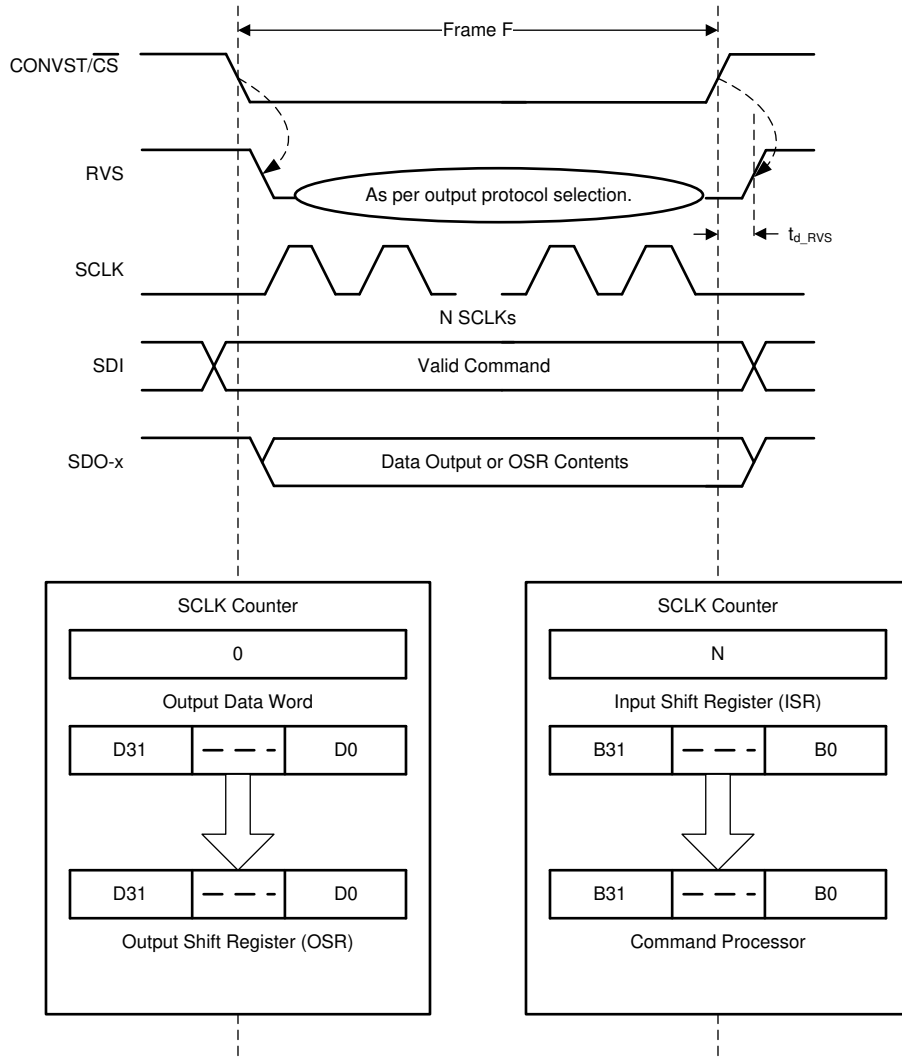

图 7-25. Data Transfer Frame
A data transfer frame between the device and the host controller begins at the falling edge of the CONVST/ $\overline{\text{CS}}$ pin and ends when the device starts conversion at the subsequent rising edge. The host controller can initiate a data transfer frame by bringing the CONVST/ $\overline{\text{CS}}$ signal low (as shown in 图 7-25) after the end of the CONV phase, as described in the CONV State section.
- The device takes control of the data bus. As illustrated in 图 7-25, the contents of the output data word are loaded into the 32-bit output shift register (OSR).
- As illustrated in 图 7-25, the contents of the input shift register are transferred to the command processor for decoding and further action.